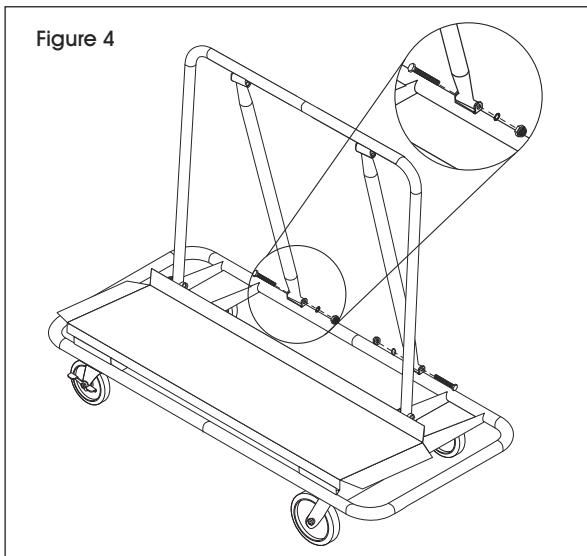

Figure 4
4. Attach supports to deck by aligning bottom of supports inside brackets on left and right frames and securing with long bolts, small washers and locknuts. (See Figure 4)